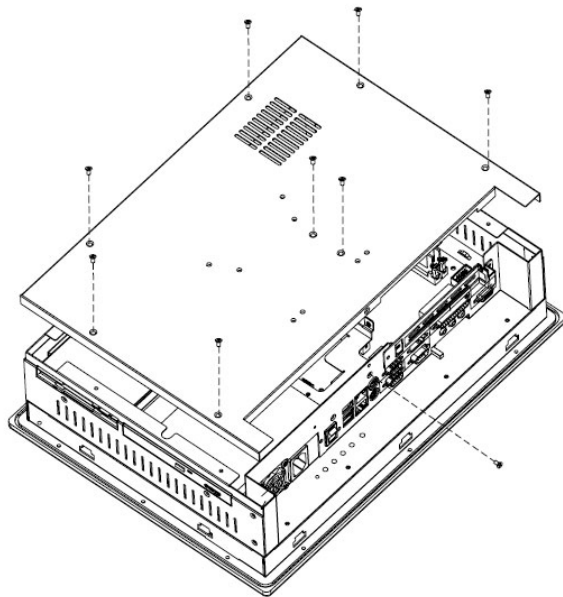

Figure 4-1: Rear Cover Retention Screws (Real Panel)
Step 2: The back cover is secured to the chassis with nine retention screws, eight on the rear panel and one on the bottom panel. (See **Figure 4-1**) Remove the nine retention screws and lift the cover off the 2901280.